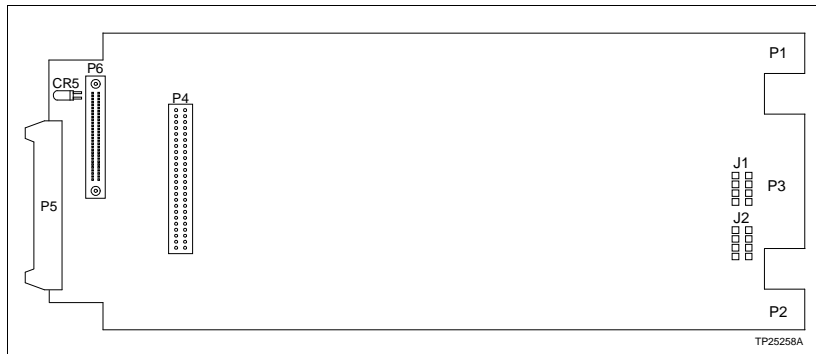
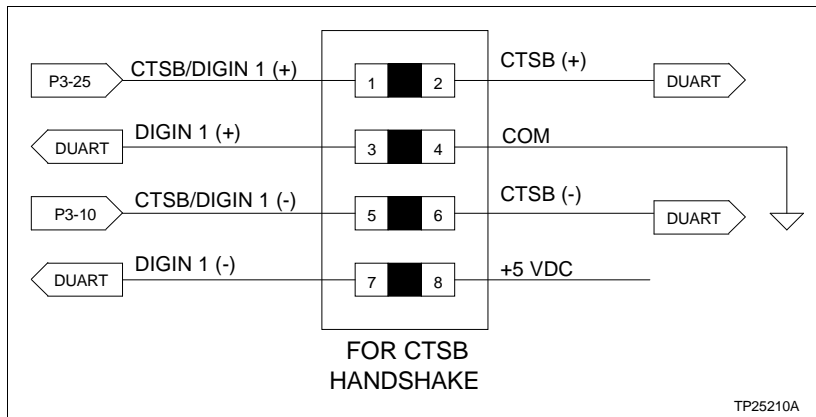

Figure 3-6. IMMPIO1 Jumper Locations
Figure 3-7. IMMPIO1 Jumper J1 Settings
The MPI module has two sets of jumpers that select handshake signal types: Request to send (RTS) and clear to send (CTS). These signals leave the module through a cable connection to the multi-function processor termination unit or the multi-function processor termination module. Figure 3-6 shows the jumper locations on the MPI module. Jumpers J1 and J2 must be set as shown in Figures 3-7 and 3-8 to enable signal handshaking.
3. Connect the other end of the cable to connector P6 on the MPI module (see Figure 3-6).